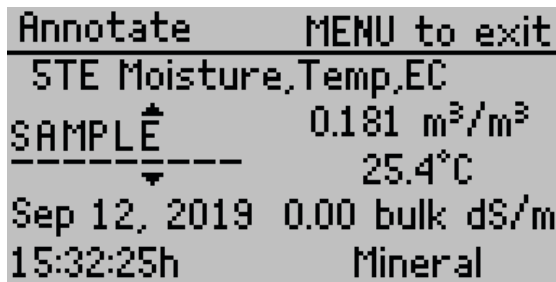

Figure 6 Annotate a saved reading
1. Press **SAVE** to show the Annotate screen (Figure 6).